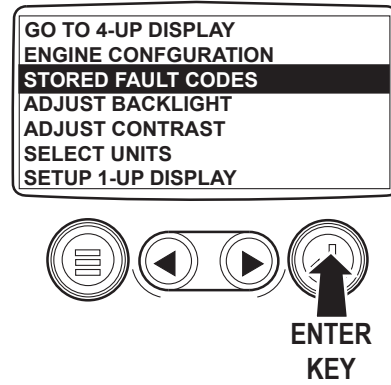

Figure 11 - Main Menu
2. Using the Right Arrow Key, toggle down the list until "Stored Fault Codes" is highlighted. See Figure 11.